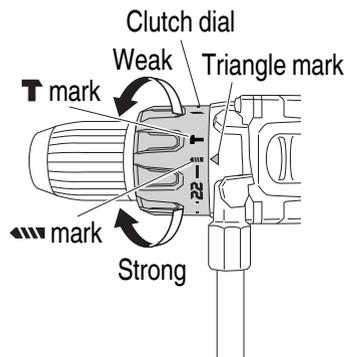

Fig. 15
## &lt;DV36DA&gt; (See Fig. 15)
- (2) Tightening torque indication (See Fig. 13, Fig. 15)
- (3) Adjusting the tightening torque (See **Fig. 13 on page 44, Fig. 15 on page 45**)